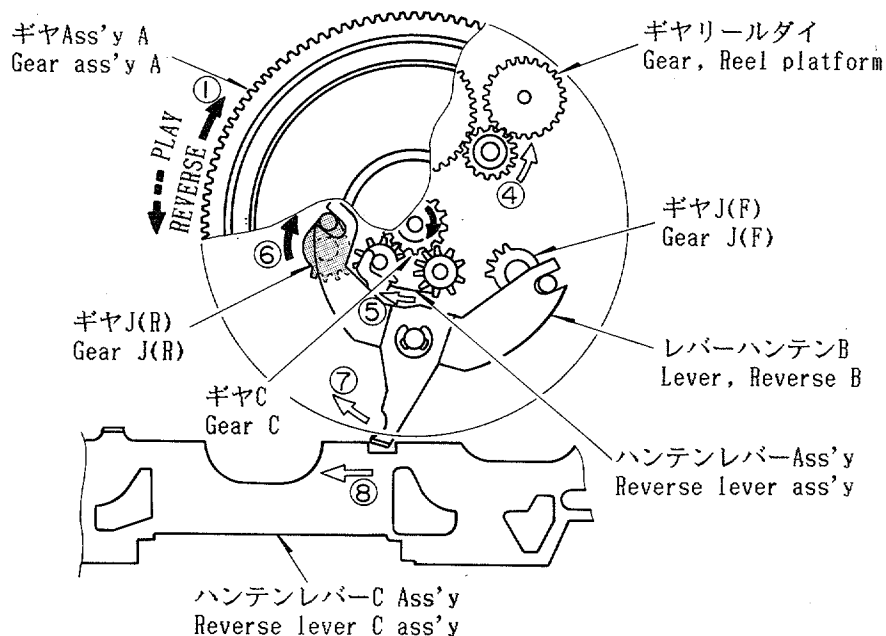

Fig. 5
- 4) ギヤAss'y AのギヤCは、ギヤI, Kを回転させ、ハンテンレバーAss'yを矢印⑤方向へ動かします。(Fig. 5 参照)
- 5) ギヤJ(R)はギヤKに噛み合い、矢印⑥方向へ回転し、レバーハンテンBを矢印⑦方向へ動かします。(Fig. 5 参照)
- 6) レバーハンテンBはハンテンレバーC Ass'yを矢印⑧方向(REVERSE方向)へ動かします。(Fig. 5 参照)
- 4) At the same time, the gear C of the gear ass'y A rotates both of the gear I and the gear K to move the reverse lever ass'y in the direction of arrow ⑤. (See Fig. 5)
- 5) Then, the gear K engages the gear J (R), rotating in the direction of arrow ⑥, thereby moving the lever, Reverse B in the direction of arrow ⑦. (See Fig. 5)
- 6) The movement of the lever, Reverse B causes the reverse lever C ass'y to slide away in the direction of arrow ⑧ — toward the reverse position. (See Fig. 5)